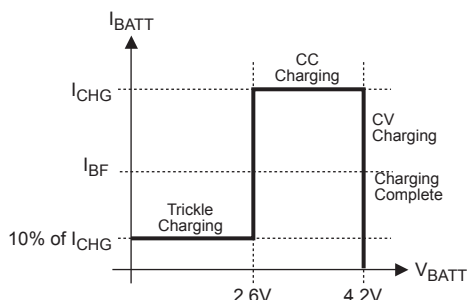

Figure 2—MP26057 Typical Charging Profile
Figure 2 below shows the typical charging profile for the MP26057. For a fully depleted battery with a terminal voltage lower than 2.6V, the MP26057 will start with the trickle charge (preconditioning) at 10% of the full charge current based on the value of R_{PGM} . If the charger stays in the trickle mode longer than 32768 cycles, RED/GRN pins become flashing indicating battery fault. After the battery voltage reaches 2.6V, the charger begins charging at the constant current of the programmed value (I_{CHG}). This is referred to as Constant Current (CC) mode. Once the battery voltage reaches 4.2V, the charger will operate in the constant voltage (CV) mode until the battery is fully charged. The charge current drops during CV mode, and the battery full indication is set when the charge current reduced to the preset value based on R_{IBF} , and the charge process terminated. Recharge will start after the battery voltage is for some reason reduced to 4.0V. After 262144 cycles of continuous charging, if the battery is still not reaching IBF condition, the on-chip timer will terminate the charger to prevent charging the dead battery for excessive long time and the fault condition will be flagged by flashing the RED/GRN LEDs.